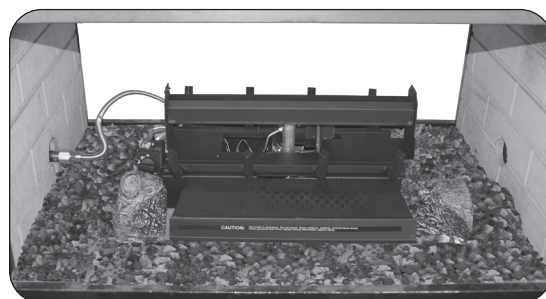

Fig. 17-2 Place lava granules
1. Spread the supplied lava granules on the floor of the fireplace; around all sides of the burner system (see Fig. 17-2). The lava granules may be placed around the remote receiver (as applicable). Leave the front of the receiver clear for control access.